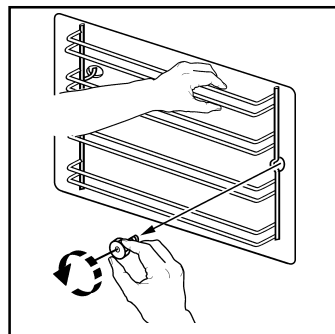

Fig. 25
- remove the front screw while keeping the shelf support in position with the other hand (Fig. 25);